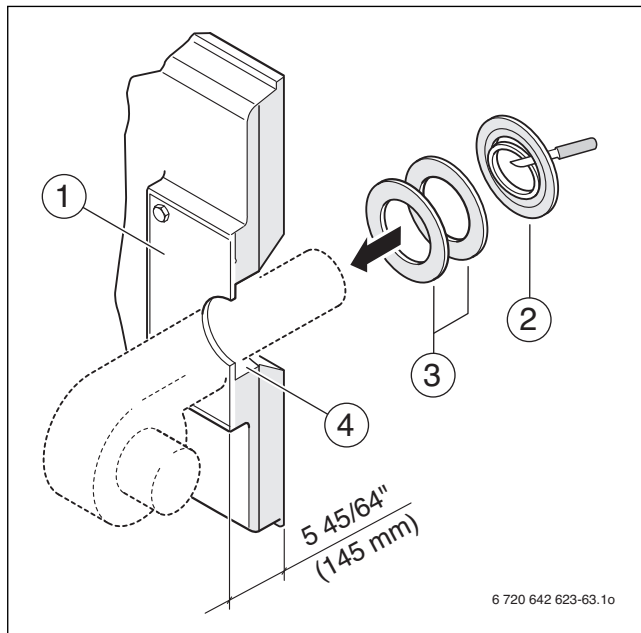

Fig. 56 Mounting the burner
- ▶ Drill or cut the burner plate (→ Fig. 56, [1]) to match the required burner tube diameter \varnothing 10 5/8 inches (270 mm).
- ▶ Cut insulating rings to match the burner tube diameter (→ Fig. 56, [2]).
- ▶ Fill the remaining gap between the burner door thermal insulation and the burner tube → Fig. 56, [4]) using the appropriate insulating rings or boiler packing insulation (→ Fig. 56, [3]).